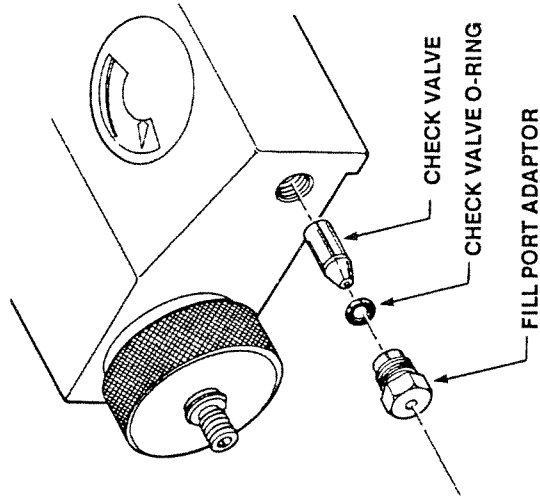

FIGURE 4-1 REPLACING THE CHECK VALVE
8. Insert a new check valve with the flat end first (Figure 4-1).